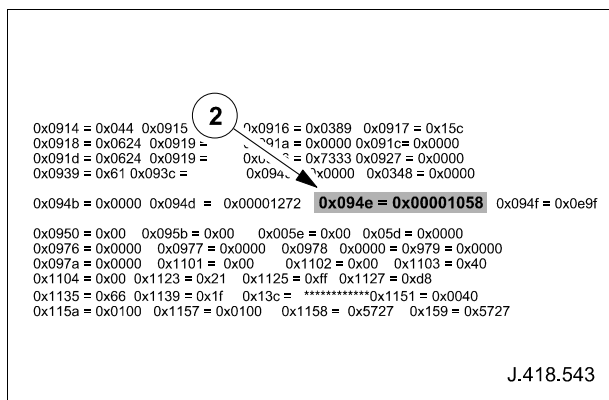

Fig. 2
1.2 Record value 0x094e, as shown in Fig. 2.